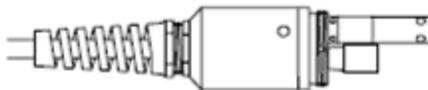

Figure 5. Bulkhead Seating
7. Screw down until the probe nut is seating on the face of the bulkhead. **Do not over tighten.** See Figure 5.